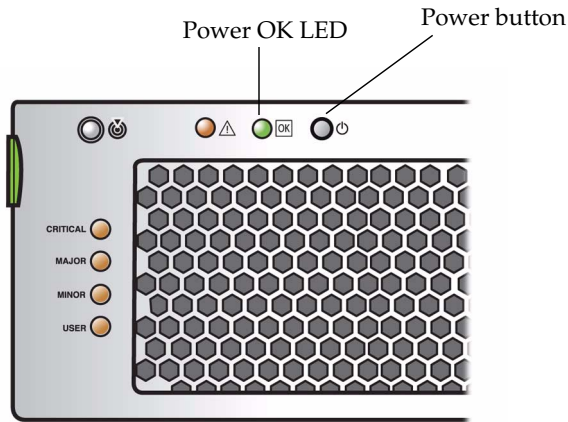

FIGURE 3-2 Power Button and Power/OK LED Locations
- **Choose one of the following methods for shutting down the server from main power mode to standby power mode. See FIGURE 3-2.**